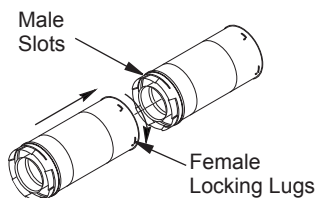

Figure 8 - Vent Pipe Connections
Twist-Lock Procedure: Female ends of pipes have locking lugs (indentations). These lugs will slide straight into matching slots on male ends of adjacent pipes. Push pipe sections together and twist one section clockwise approximately one-quarter turn until sections are fully locked (see Figure 8). *Note: Horizontal runs of vent must be supported every three feet. Use wall straps for this purpose.*
2. Assemble the desired lengths of pipe and elbows necessary to reach from the fireplace flue up through the firestop. Be sure all pipe and elbow connections are fully twist-locked (see Figure 8, page 9).